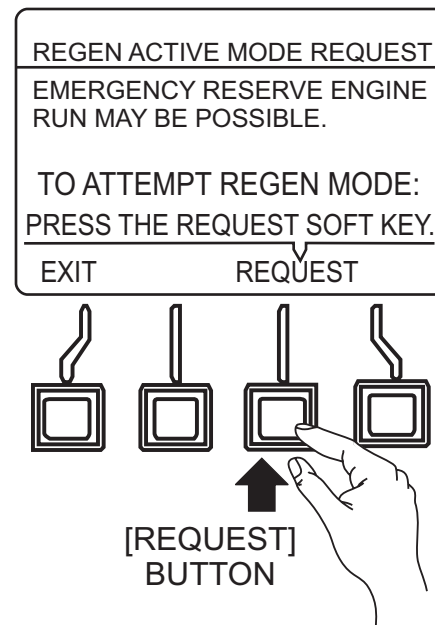

Figure 90. Regen Request
3. Press and hold the "REQUEST" button (Figure 90) until the "REGEN ACTIVE" message is displayed on the monitor and then release button.